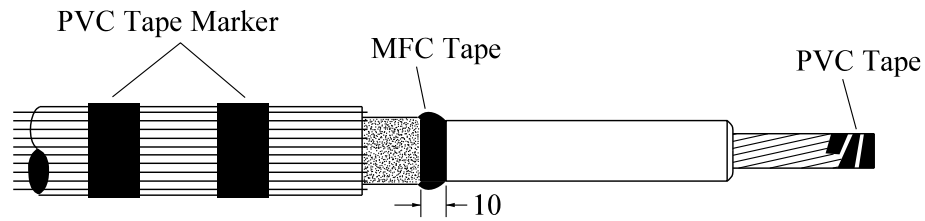

Fig 2
20. Apply field control mastic strip, type MFC, slightly stretch one end applying with a 5mm overlap onto both semi-conducting screen and core insulation, push the mastic in place while stretching it progressively until both ends overlap and tear-off excess mastic — Fig 2	--